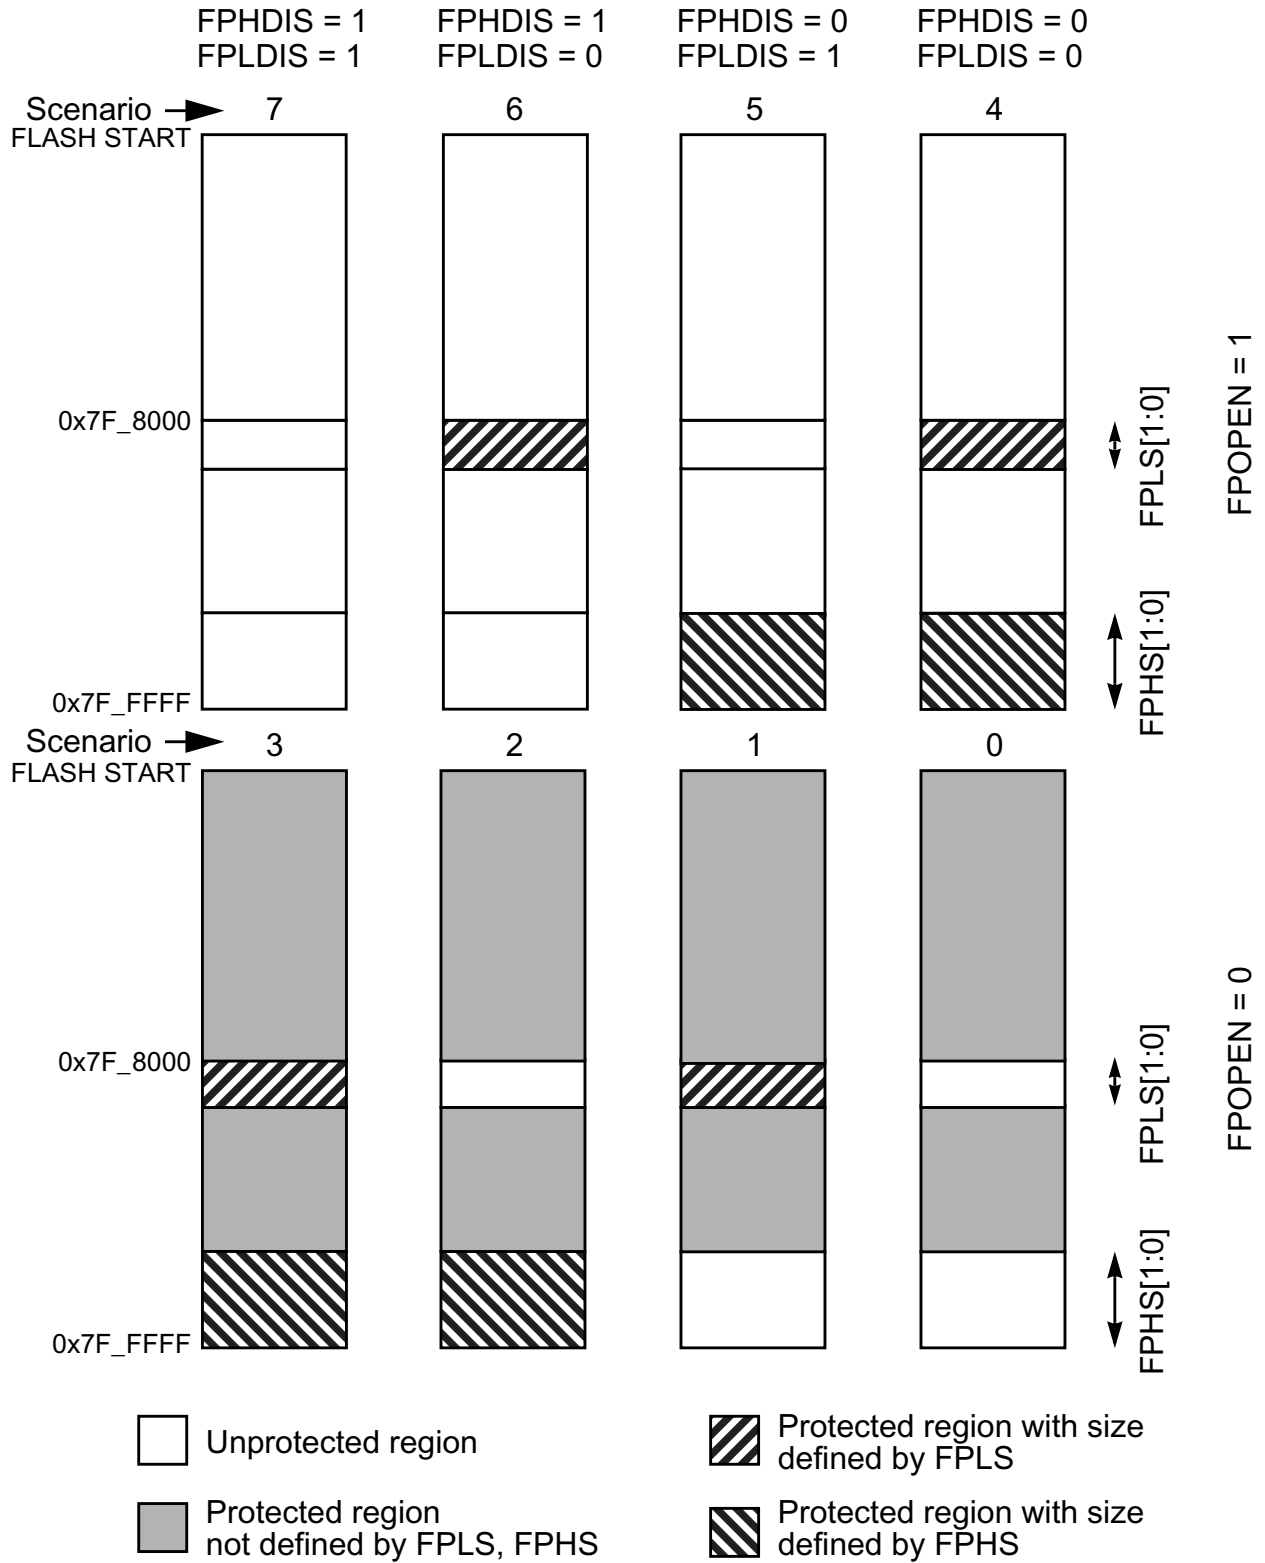

Figure 25-14. P-Flash Protection Scenarios
All possible P-Flash protection scenarios are shown in Figure 25-14. Although the protection scheme is loaded from the Flash memory at global address 0x7F_FF0C during the reset sequence, it can be changed by the user. The P-Flash protection scheme can be used by applications requiring reprogramming in single chip mode while providing as much protection as possible if reprogramming is not required.
1. Allowed transitions marked with X, see Figure 25-14 for a definition of the scenarios.